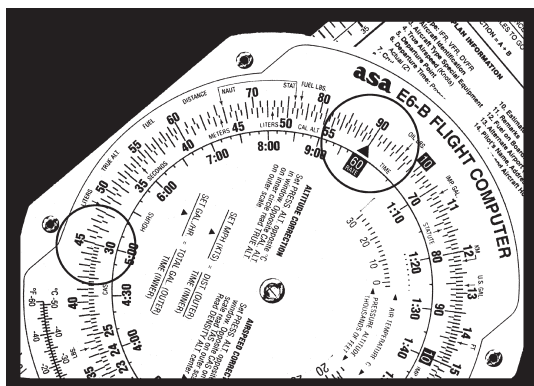

Figure 16
2. Find 300 feet per mile on the middle scale (see Figure 16).